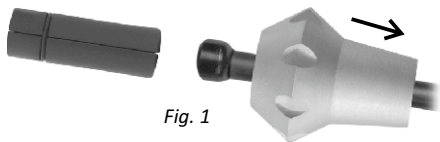

Fig. 1
2. Insert first the metal part of the impact extension (head) on the thinnest steel tube of the baton (with narrower end towards the handle) – see Fig. 1.